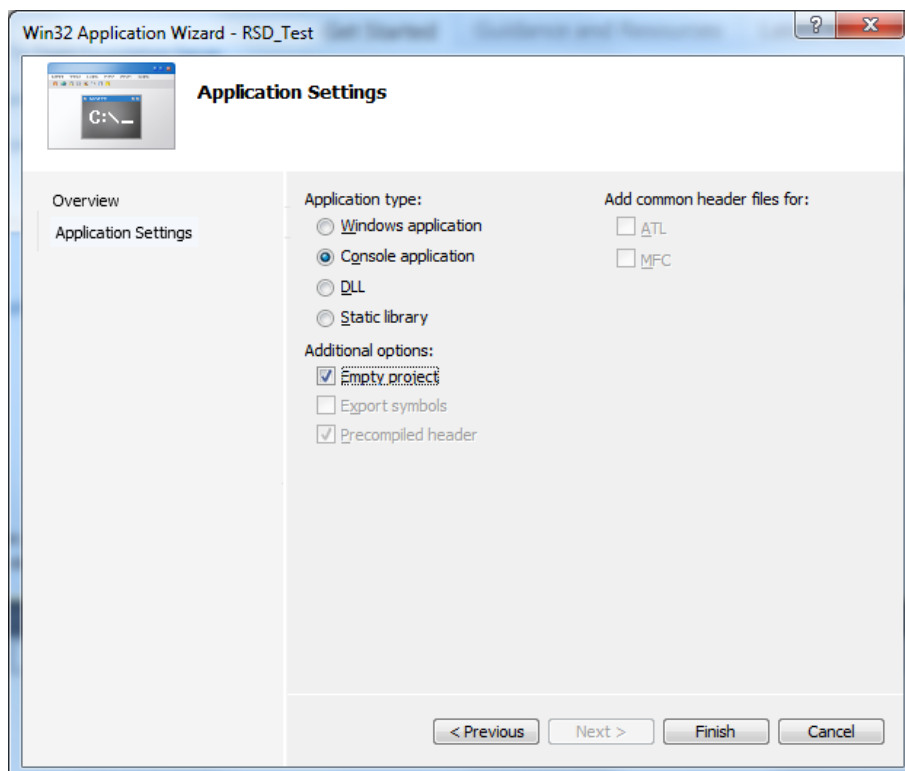

Figure 21 The new Project Win32 Application Wizard – Application Settings window
6. For the Application Settings on the next page (Figure 21) select Console Application. Also check the “Empty Project” box under Additional Options. Then click “Finish”.